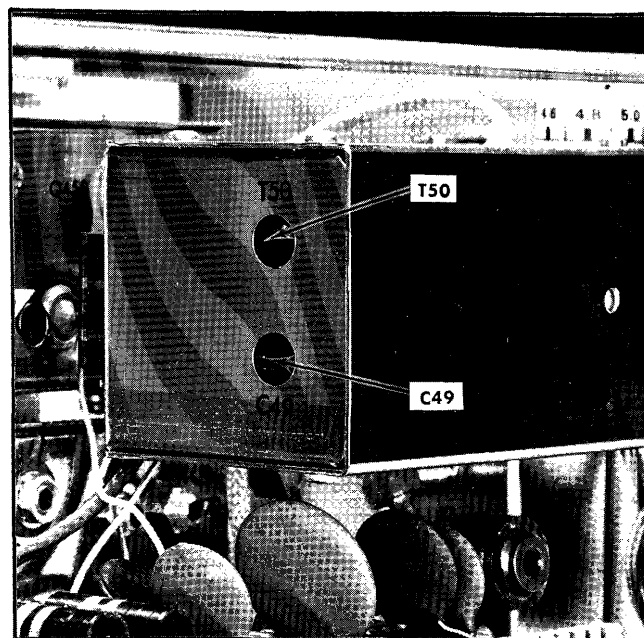

Fig. 4-20. Location of oscillator adjustments.
i. Check the RF CENTER FREQ dial reading. If it does not read 1 mc,  $\pm 110$  kc, carefully adjust T50 (Fig. 4-20) so that the dial reading is proper when the 1 mc signal is displayed on the screen.